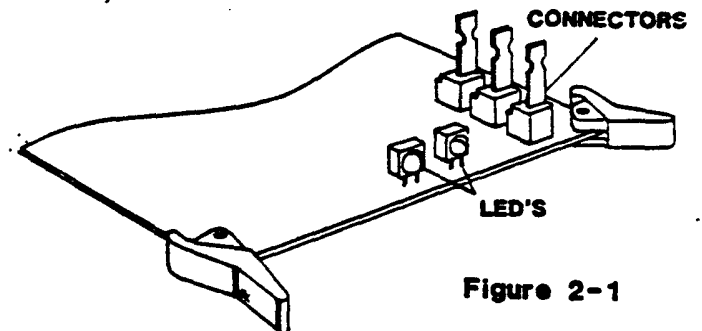

Figure 2-1
**Description** With the EROU-C installed, the LED's on the series 4 and higher ECPU-B PCBs may be used for additional diagnostics. The upper LED (Refer to figure 2-1) will flash at about 60 IPM indicating EDTU/ECPU data communications is functional. The lower LED flashes at about 300 IPM indicating the ECPU microprocessor is functional. Note the upper LED will not flash while the system is in programming mode.